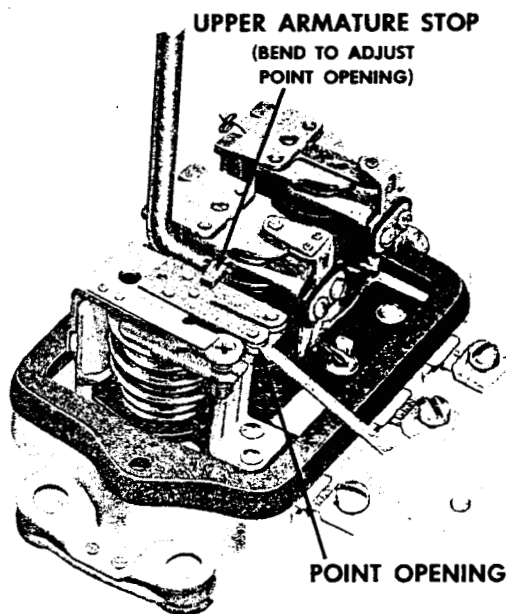

Figure 10—Cutout relay point opening check and adjustment. Battery must be disconnected when this check is made.
**POINT OPENING**—Check point opening and adjust by bending the upper armature stop (Fig. 10).